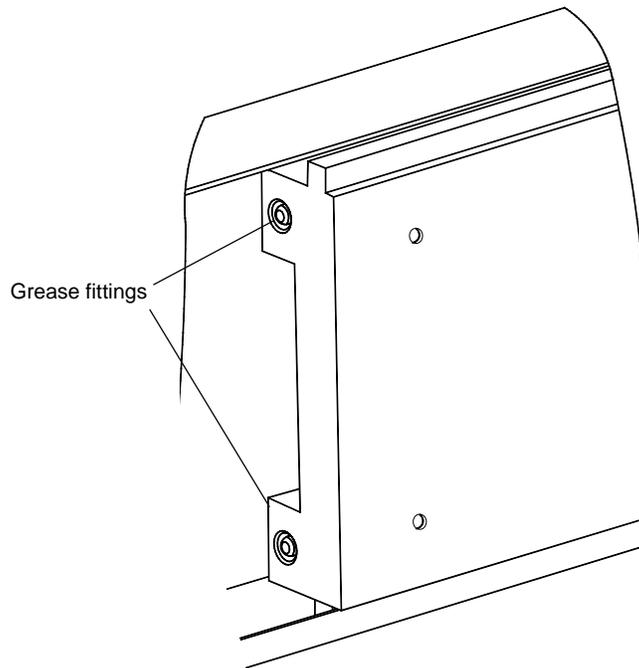

Figure 64. Grease Fittings
2. Locate the grease fittings on the X-axis stage motor plate (Figure 64).